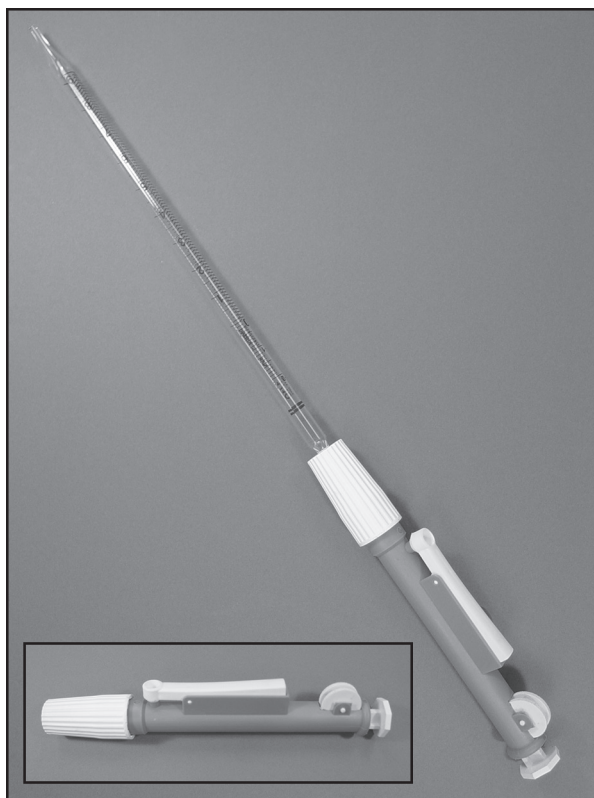

Figure R7.5 | Pipette Pump
2. Depress the plunger on the Pipette Pump™ and insert the pipette (Figure R7.5) into the liquid to be measured.